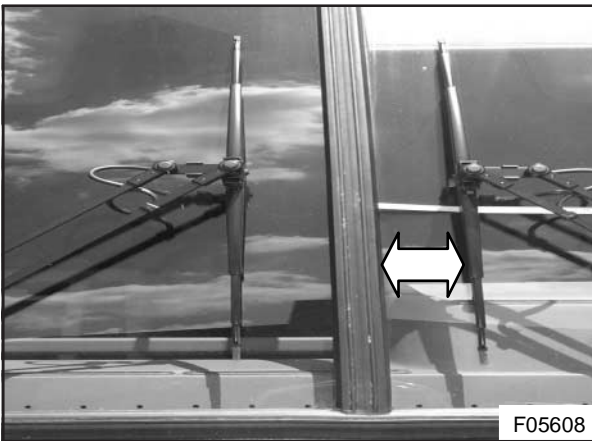

Figure 15: Wiper to windshield center post distance: $3 \frac{5}{32}$ inch
- 12) Reinstall the left- and right-hand wiper arm assemblies. Before tightening the nuts, position the wiper arms as shown in Figure 15. The wiper blades should be about $3 \frac{5}{32}$ inch (80 mm) from the windshield center post (on a dry windshield).